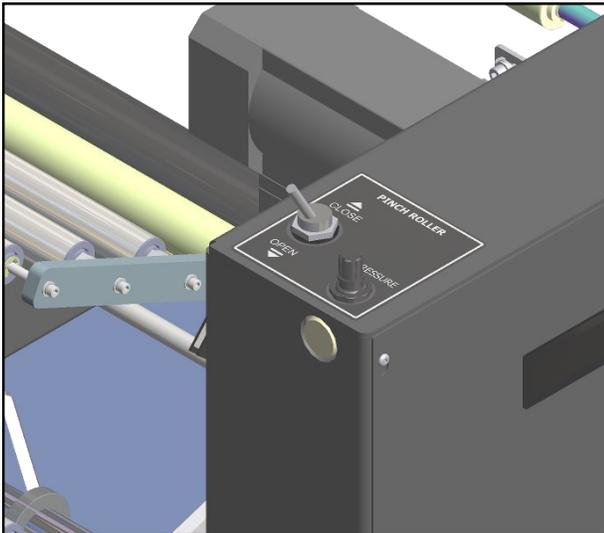

Figure 2-6B. Toggle Switch.
1. To begin threading the bags through the MAX bagger, push the Toggle Switch to the OPEN position. **Figure 2-6B.**